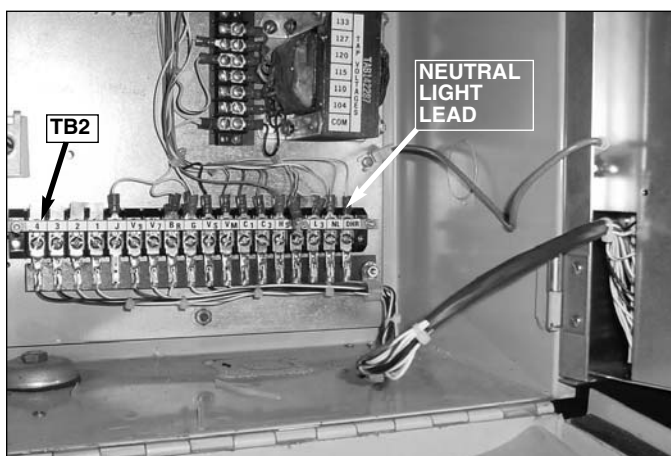

Figure 4.
4. Locate the White/Red Neutral Light lead on TB2. TB2 is the terminal board located at the bottom of the back panel (See Figure 4).